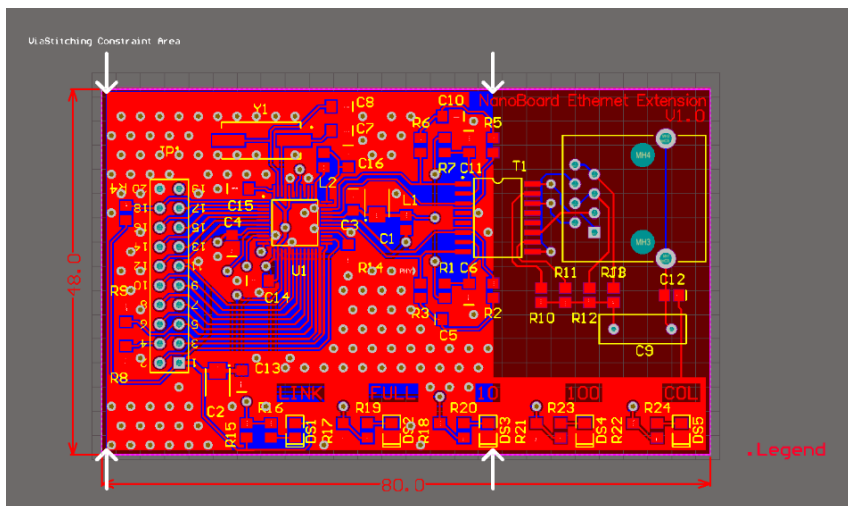

Figure 2. Via Stitching area
- b) Click on each of the 4 white arrows as shown in Figure 2 below.